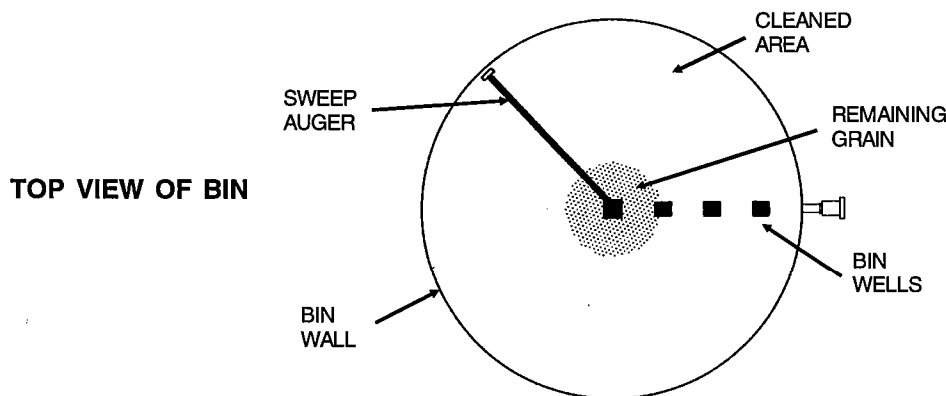

FIG. 7
5. Scoop and sweep by hand the remaining floor area to the center of the bin. See Fig. 7.